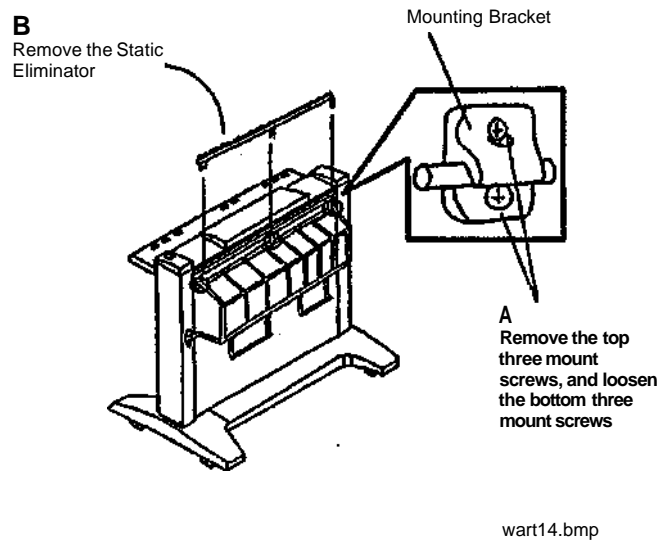

Figure 1 Removing the Static Eliminator
1. (Figure 1): Remove the Static Eliminator.